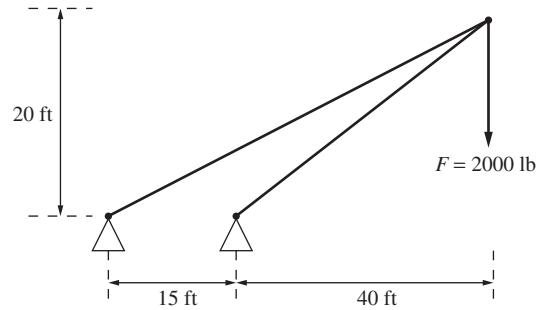

Figure P7.40 Finite element idealization of crane structure subject to loading.
- 7-40.** A structural engineer is designing a crane that is to be used to unload barges at a dock. The finite element idealization of the crane structure picking up a 2000 lb load is shown in Fig. P7.40. The displacement in the horizontal and vertical directions at the end of the crane can be determined from the system of equations: